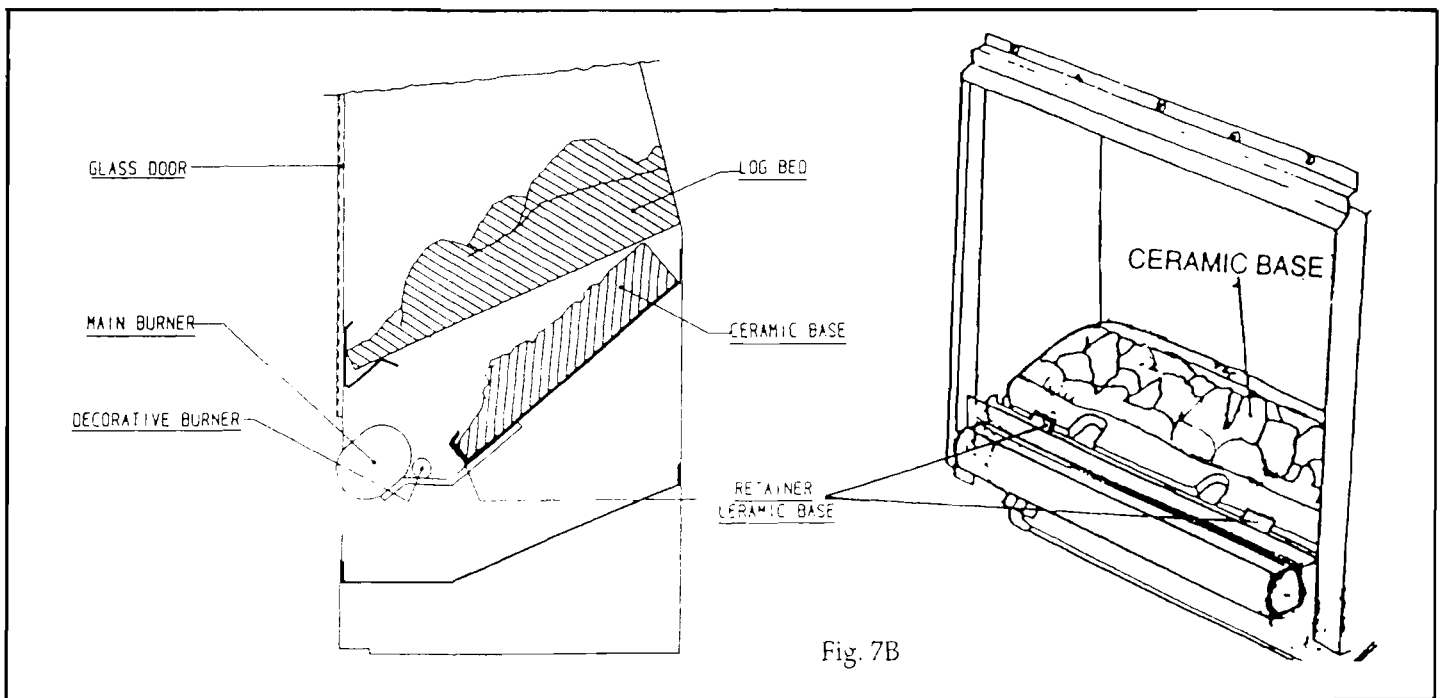

Fig. 7B
- (i) Place the base centrally on the firebox base so that the electrode lines up with its cut-out ensuring that the base is retained by the brackets on the firebox base (Fig. 7B) and the word TOP is uppermost.